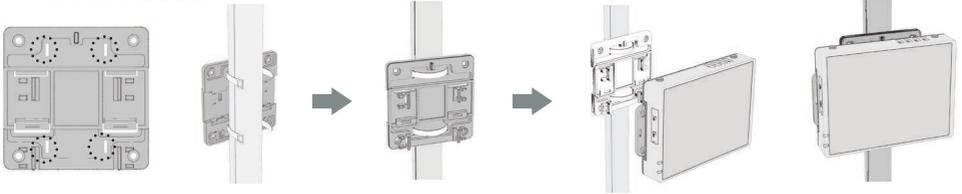

Figure 5
- Step 1. Affix the mount bracket to the pole using cable ties (as shown in Figure 5).